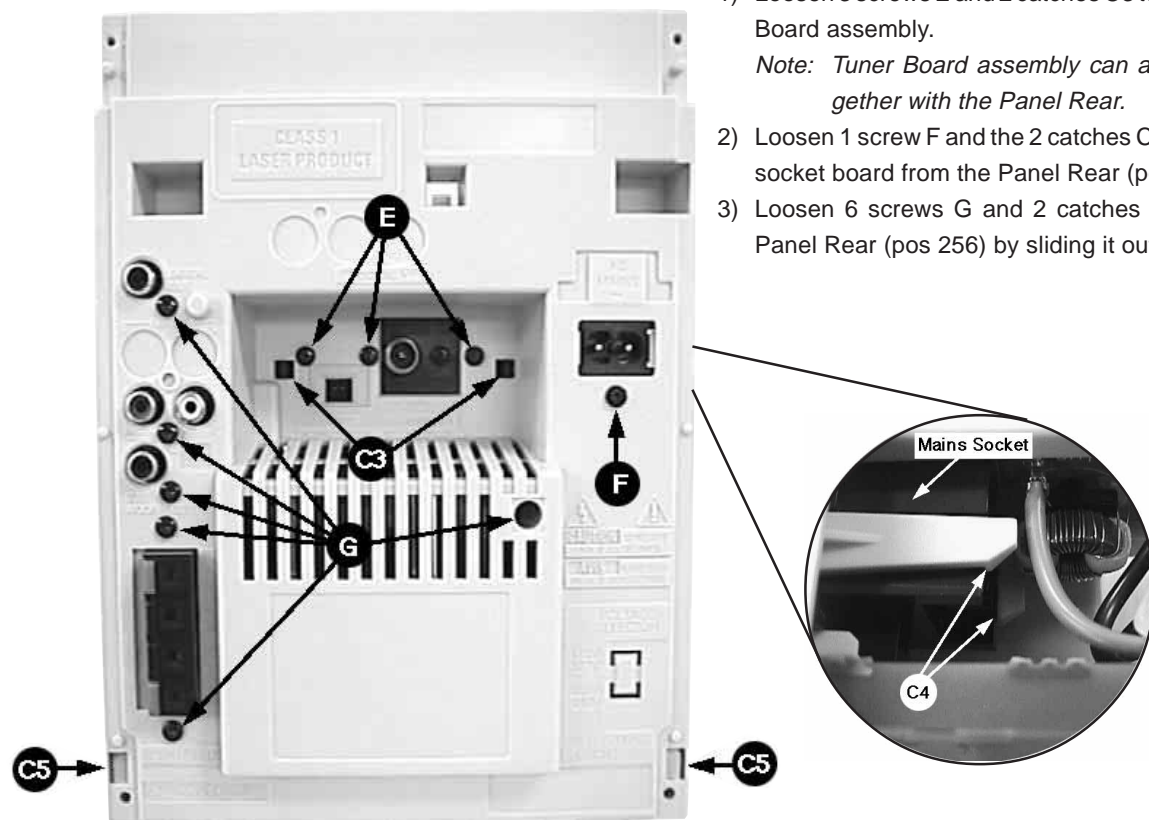

Figure 8
- 6) Loosen 3 screws E (see figure 8) on the Panel Rear (pos 256) & uncatch 2 catches C3 to remove the Tuner Board.